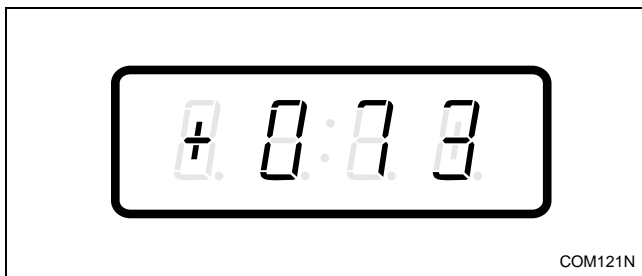

Figure 94
3. Press the DELICATES (+) or the COLD (-) keypad to scroll through the programmable options until “+073” appears in the VFD. Refer to *Figure 94*.